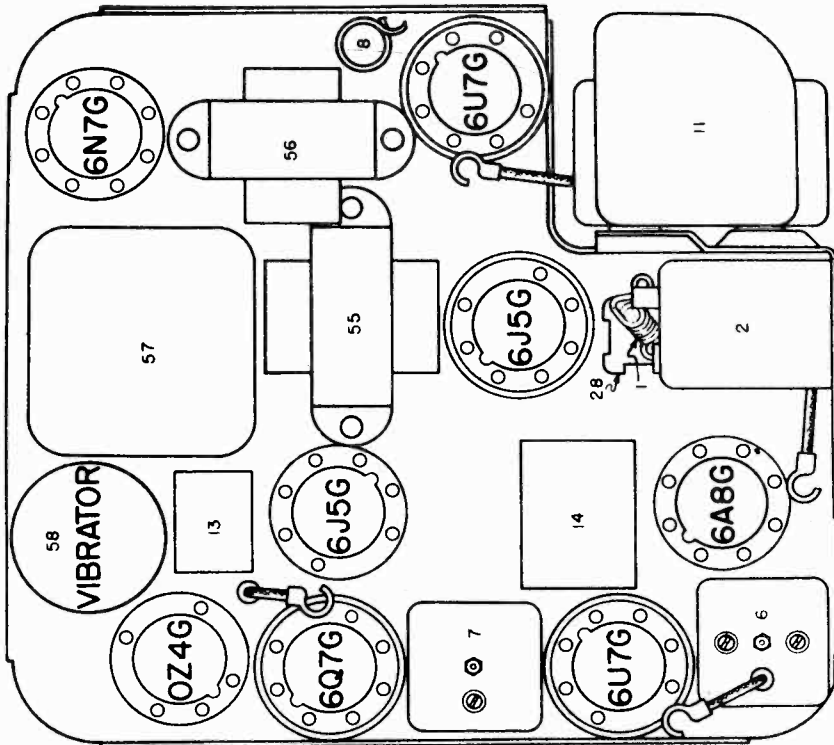

FIG. 2 PARTS LAYOUT-TOP VIEW
1. The Bond that grounds the Gang Condenser to the Antenna Coil can should be held against the Gang Condenser bracket and soldered. This is shown in Figure 1 before change, and Figure 2 after change.
- e. Adjust the trimmers on the I-F coils (Illustration 6 and 7, Figure 2) for maximum output. These adjustments should be repeated several times and during alignment, the test oscillator output should be kept to as low a value as is consistent with obtaining a readable indication on the output meter.
- d. Adjust the oscillator padding condenser (Illustration 2B, Figure 2) located on the mounting plate of the receiver to maximum output. (This adjustment sets the low frequency tuning range of the receiver to 540 K.C.)